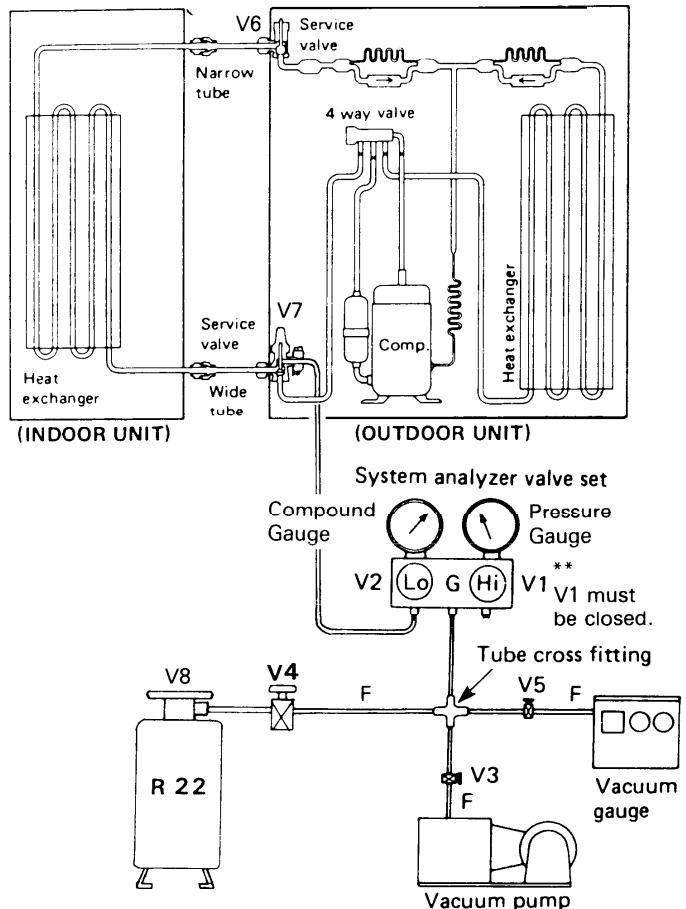

Fig.24
2) Confirm that both Narrow Tube and Wide Tube service valves on the outdoor unit **V6** and **V7** are fully opened, and other valves are still closed. (Refer to Fig. 24)
- 1) Connect instrument as in Fig. 24.